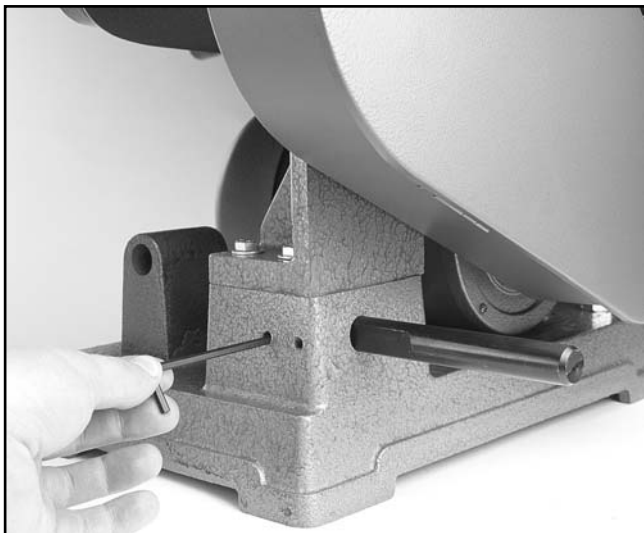

Figure 10.
7. The last step involves mounting the working table. Loosen the two setscrews in the cast iron base. Insert the table support rod into its hole, making sure the flat portion of the shaft is facing the setscrews. Tighten the setscrews. **Figure 10.**